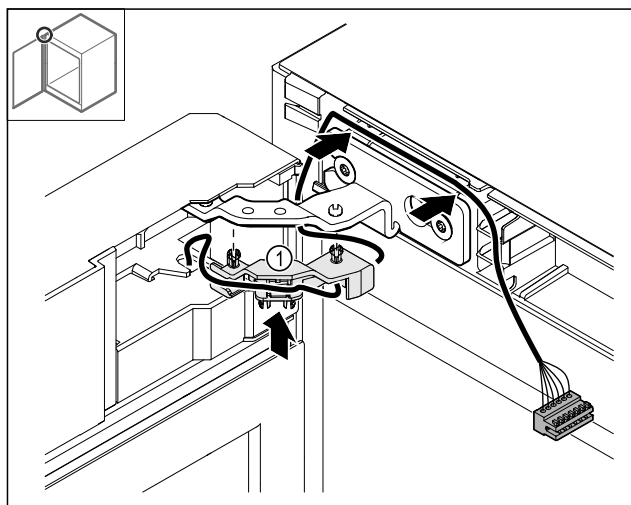

Fig. 52
- Press the cable bracket Fig. 52 (1) into the hinge.